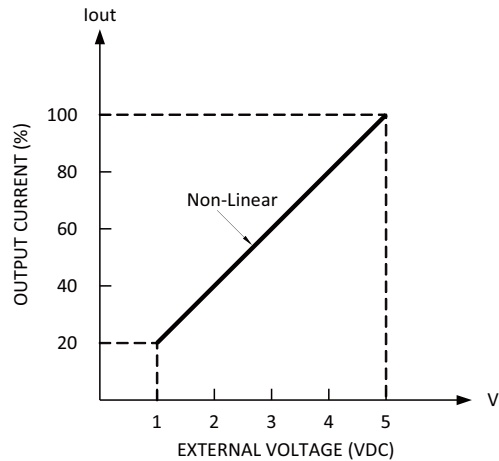

Fig 4.2
- (c)Trimming of output current is allowed between 20~100%(Typ.) of the rated output current as shown in Fig 4.2.